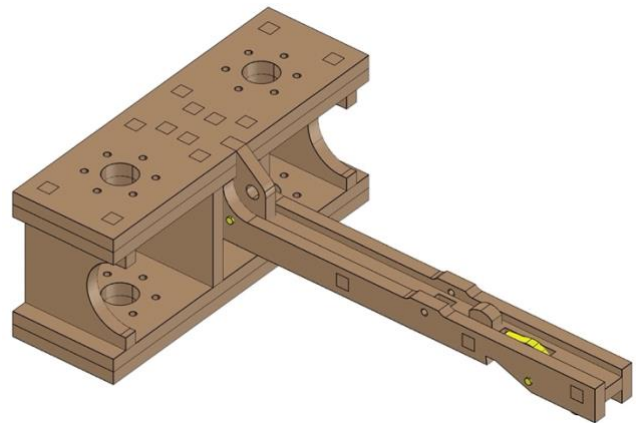

Fig. 26
- *Fig. 26* shows the completed process.